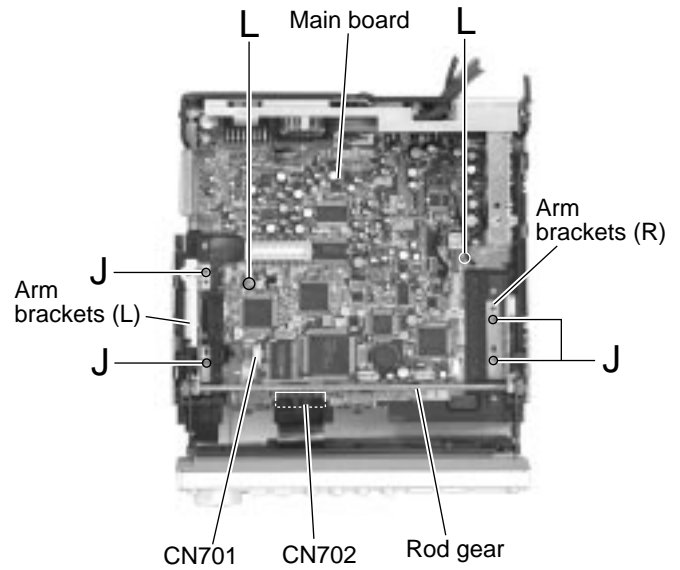

Fig.11
■ Removing the main board (See Fig.11 to 15)